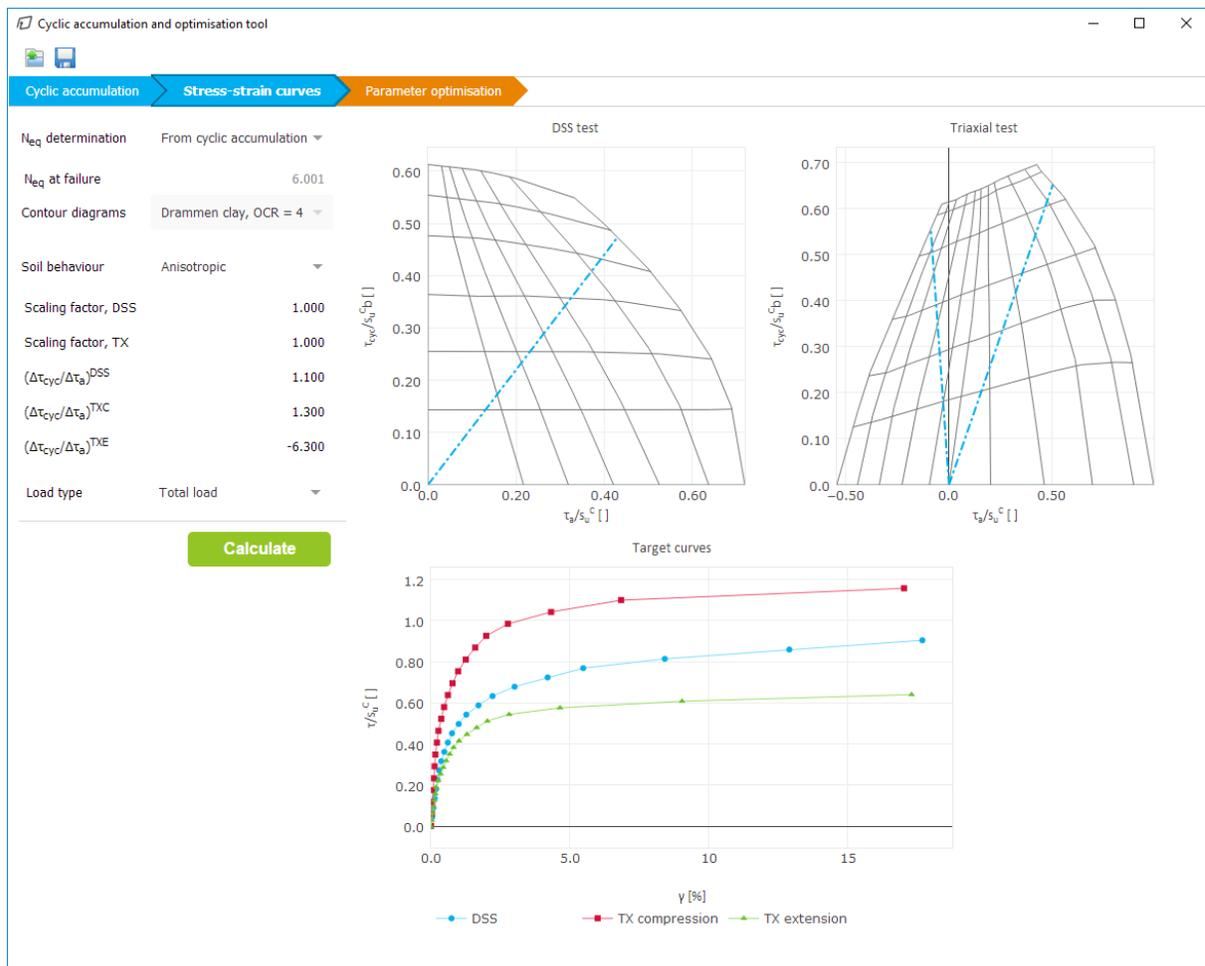

Figure 140: Stress-strain curves for total load
DSS and triaxial contour diagrams are plotted together with stress paths described by the cyclic to average ratios (Figure 140 (on page 160)). Notice that the shear stresses are normalised with respect to the static undrained shear strength in compression. The extracted stress-strain curves are plotted below the contour diagrams.
- Click **Calculate** to produce the corresponding normalised stress-strain curves below the contour diagrams. See Figure 140 (on page 160) for the outcome.